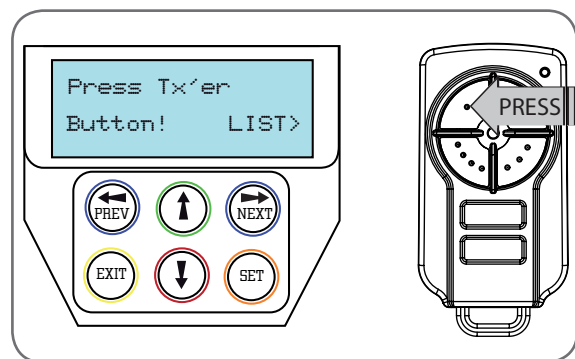

Fig 10.2
- Press the transmitter button you wish to use to operate the Gate Opener (e.g. button 1) **(Fig. 10.2)**.